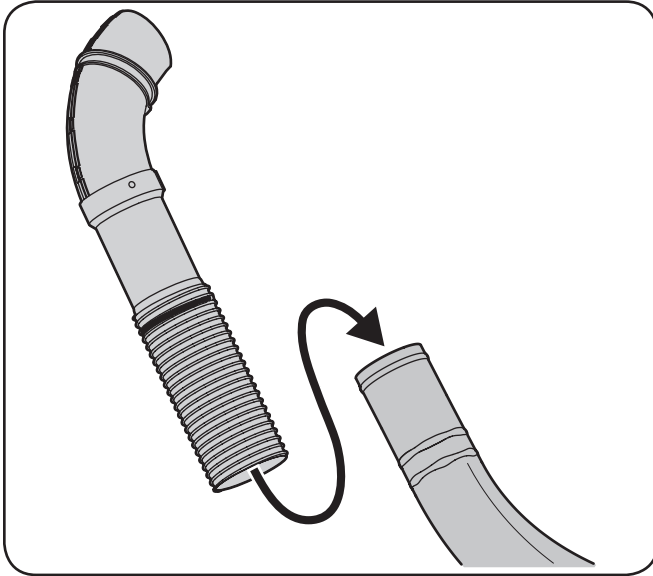

Figure 5-24
7. Install the upper chute tube onto the discharge chute elbow as shown in Figure 5-24.